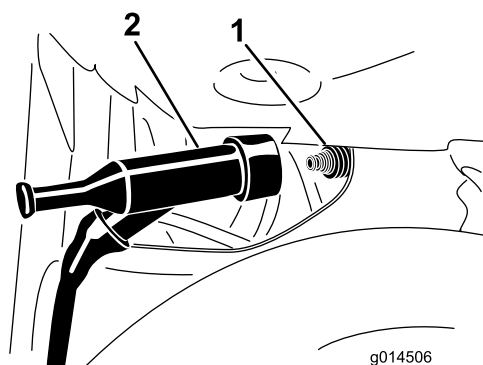

Figure 18
2. Pull the wire off the spark plug (Figure 18).